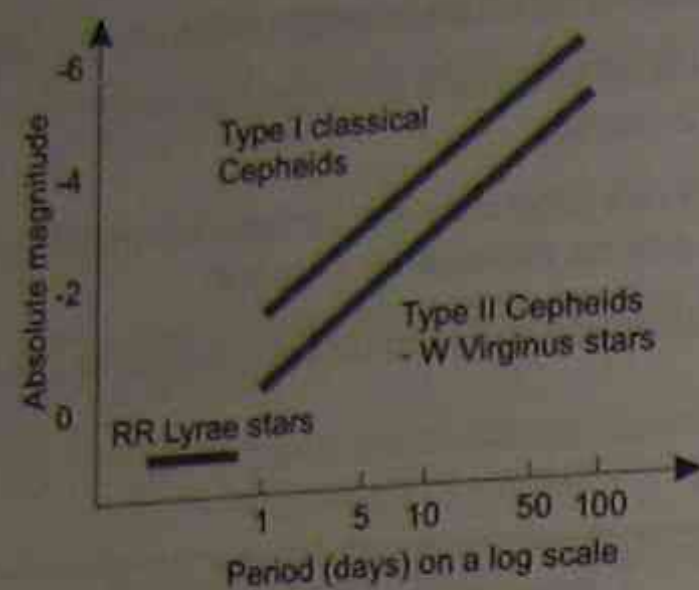

Figure 5.42
- (e) A particular Cepheid type variable star has a period of approximately 5 days and an average apparent magnitude of +4. Using the period-luminosity curve of Figure 5.42 calculate the distance to the galaxy containing this star. (2 marks)